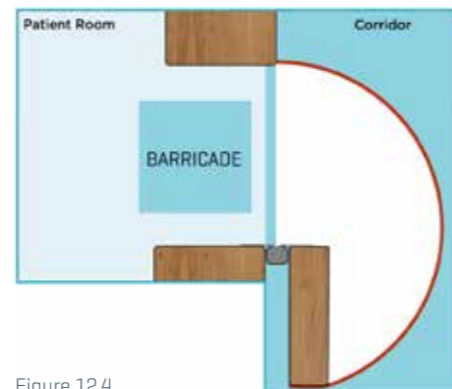

Figure 12.4
- Outward Swinging Doors** – The simplest way to minimise or prevent a barricade risk is to swing the door outwards. This means that the door would swing away from the attempted barricade and allow easy access. This is ideal for doors where an outward swing is possible such as en-suite doors that swing into bedrooms however may not be suited to bedroom doors where an outward swinging door would potentially block a corridor or if swung outward at speed could potentially strike and injure anyone within the arc. Refer Figure 12.4.